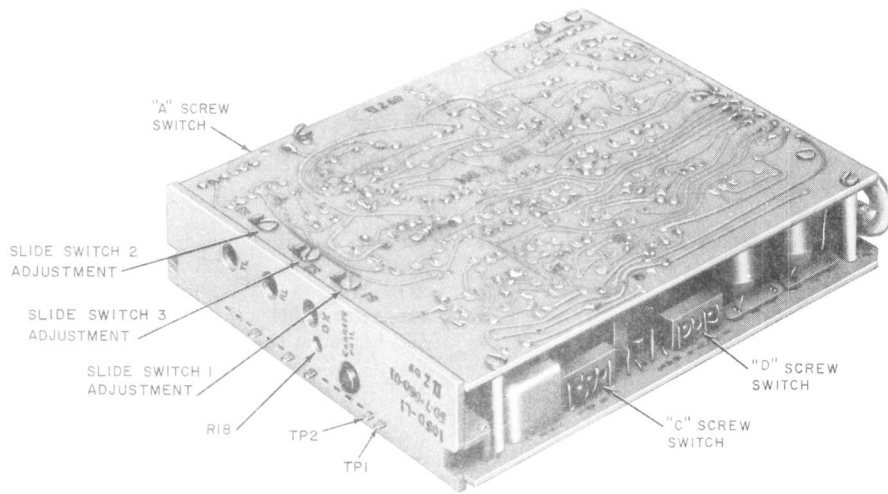

Fig. 1—Data Set 108D-Type
**1.02** The multiple arrangement using data set 108D or E (Fig. 1 and 2, respectively) consists of eight data sets per data mounting, a 28A1 data mounting, one 27B1 data unit per data mounting (one for eight data sets), and KS-20575 rectifier or an appropriate power source.
**2.02** Faceplate-indicated option selection on the 108D and E is made by means of slide or rotary switches as shown in Table A. Table A also provides option designation, function of option, and faceplate designation. Installation of options on the data set is made in accordance with specifications on the service order or circuit layout record. See Fig. 1 and 2 for location of switches on data set 108D and E, respectively.